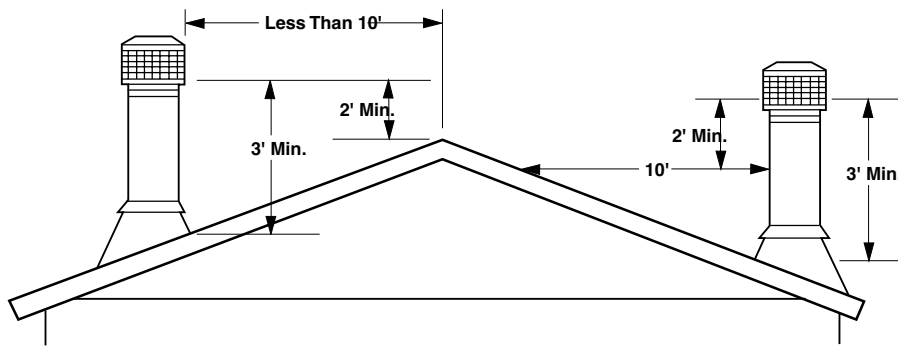

Figure 6
8. **Figure 6** illustrates the correct height of your chimney top. It is unlikely that your installation does not adhere to the installation instructions. However, if not correct, you could experience an unusual downdraft. Usually, the best solution is to increase the chimney height. This may also be necessary if nearby trees, adjoining roof lines or a hill is causing a downdraft condition.